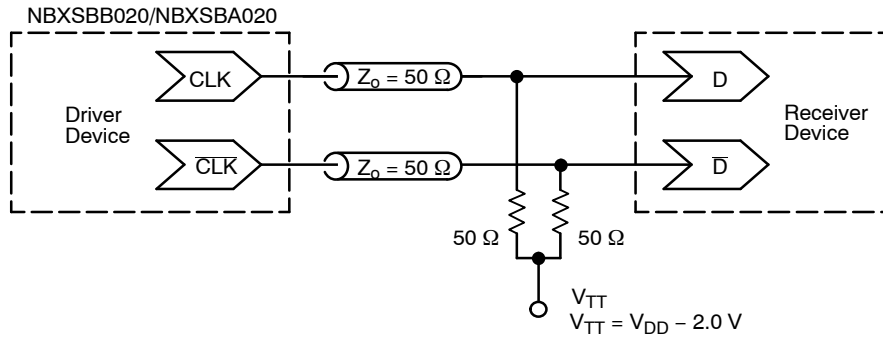

Figure 4. Typical Termination for Output Driver and Device Evaluation
2. Measurement taken with outputs terminated with 50 ohm to $V_{DD}-2\text{ V}$. See Figure 4.
3. Measurement taken with outputs terminated with 50 ohm to $V_{DD}-2\text{ V}$. See Figure 4.